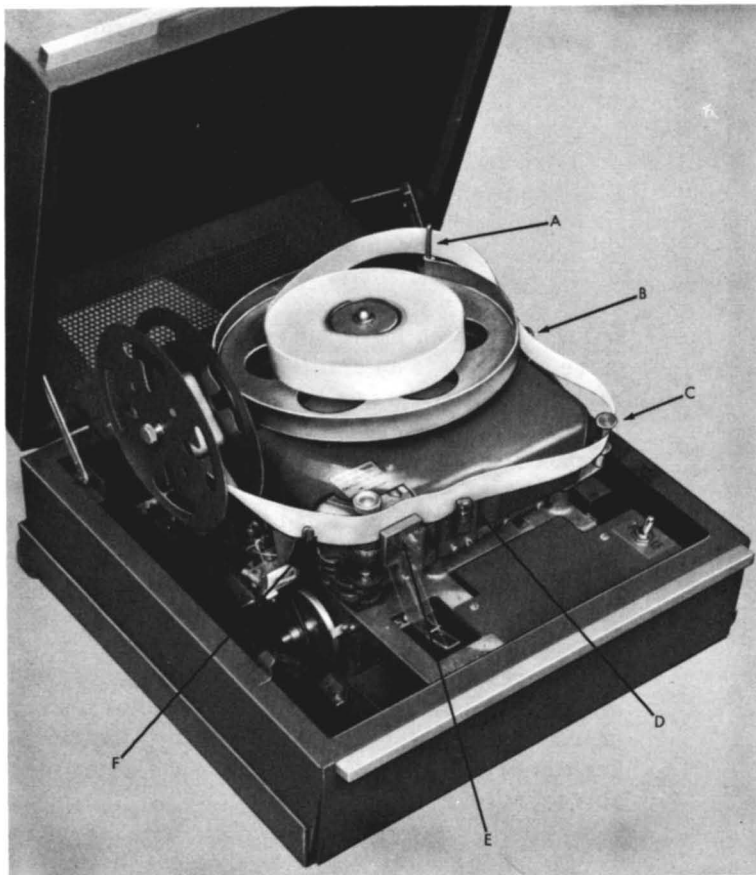

Figure 10. IBM 1624 Tape Punch
Place the roll of unpunched tape on the turntable and thread as shown in Figure 10. The tape retainer (F) must be rotated to the left by pushing back on its extended left edge. This also moves the tape lever (D) forward to facilitate threading. An unwound section of tape is then threaded as follows:
1. Through the tape guide (A).
2. Inside the tape guide (B).
3. In front of the tape tension guide (C).
4. In back of the tape lever (D).
5. Between the punching mechanism and the punch guide block (E), which can be seen in front of the tape.
6. Between the guides on the tape retainer (F). With the end of the tape held to the left, the tape retainer (F) is returned to normal position, which causes the pins on the feed roll to pierce through the blank tape. The tape lever simultaneously returns to normal position with the top guide above the tape.